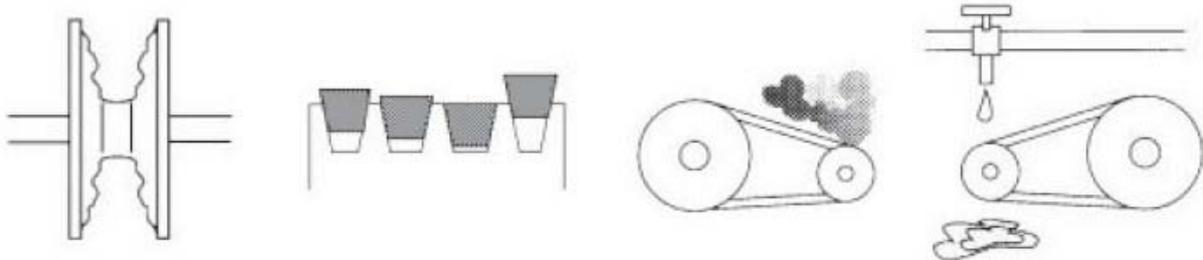

Figure 132: Unfavourable operating conditions (3)
- Disc worn / grooved not uniform / dust, dirt / moisture, humidity – **Figure 132**